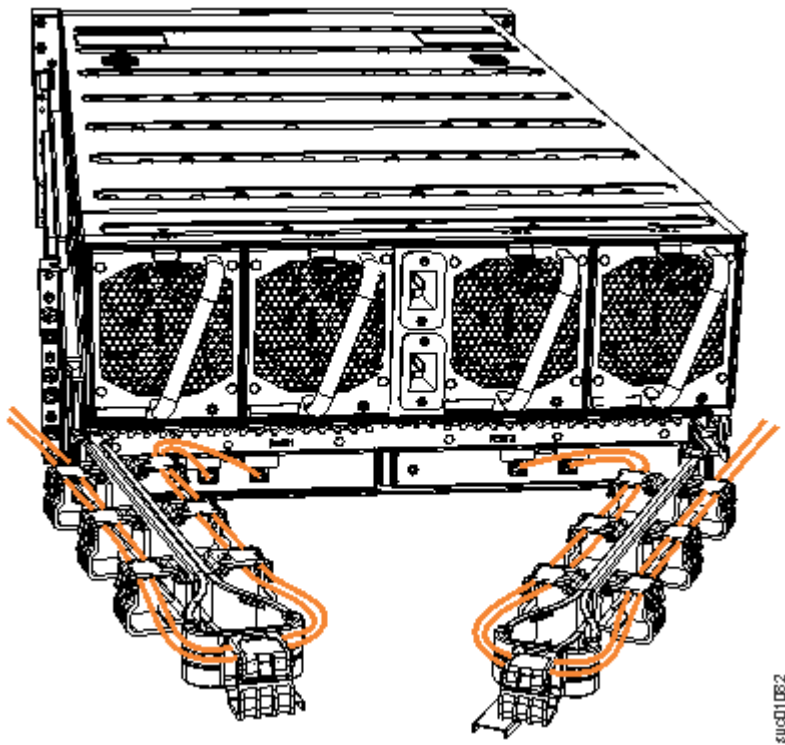

Figure 88. Example of SAS cables routed through the cable management arms
8. Route the SAS cables through the cable management arms, as shown in Figure 88 on page 77.